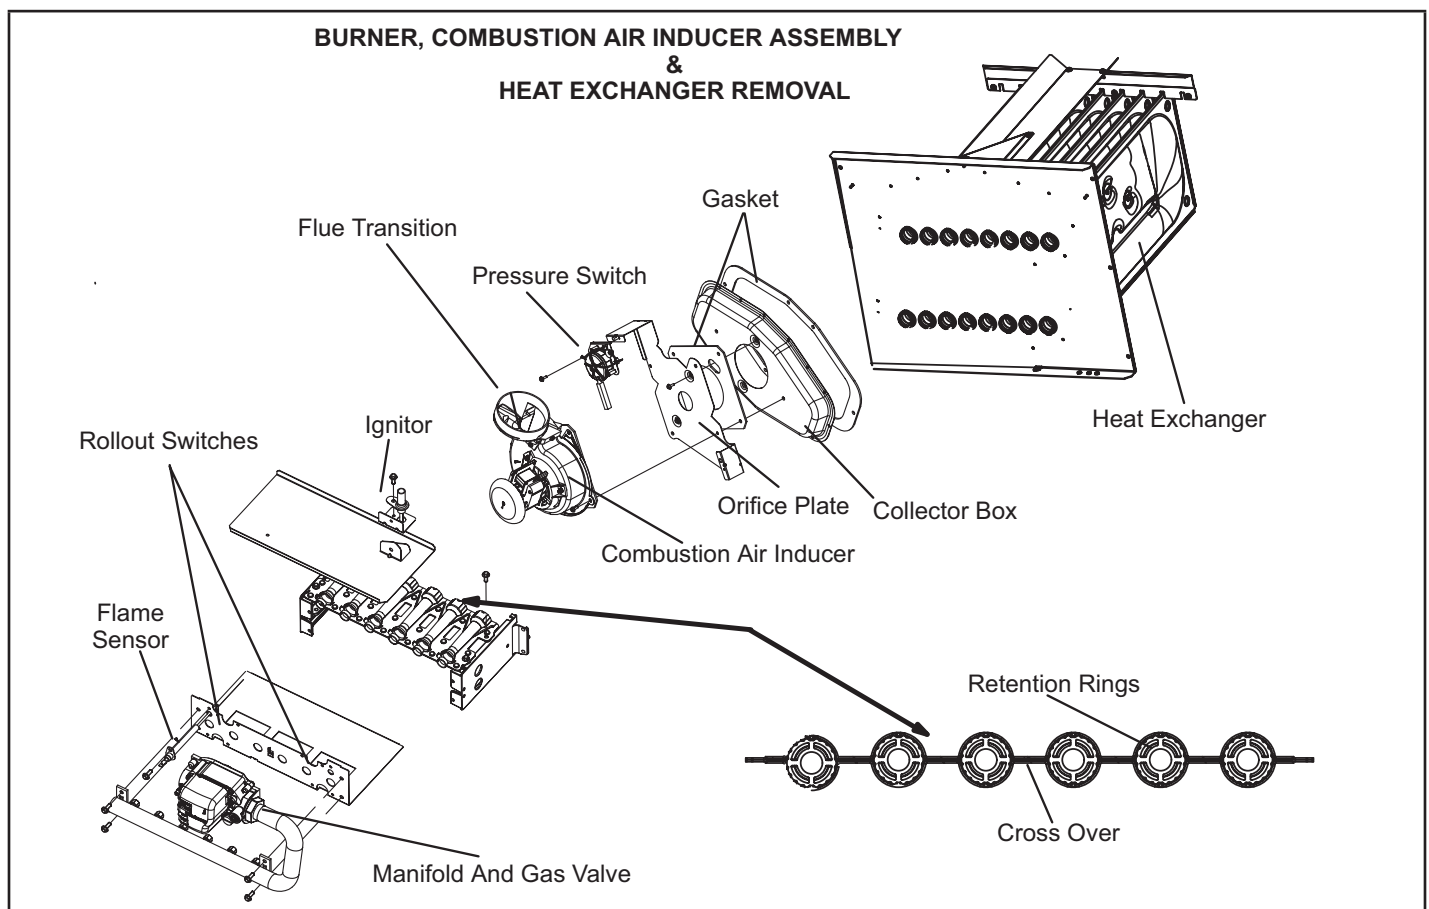

FIGURE 26
- 11 - To clean burners, run a vacuum cleaner with a soft brush attachment over the face of burners. Visually inspect inside the burners and crossovers for any blockage caused by foreign matter. Remove any blockage. FIGURE 26 shows burner detail.